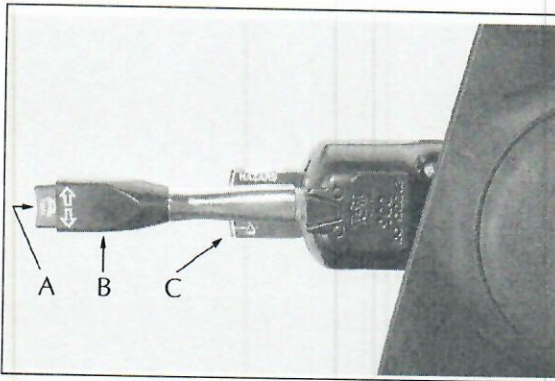

Figure 10
The column-mounted control on the Kalmar tractor has three functions. It is located on the left-hand side of the steering column (Figure 10).
1. Moving the lever (Figure 10, B) forward activates the right turn signal. Moving the lever to the rear activates the left turn signal. The turn signal is not self canceling and must be returned to the center (OFF) position manually after it is engaged. The green arrows on the dash panel light up and flash when the switch is activated.
2. The button on the end of the lever operates the high beam lights (Figure 10, A). The headlights must be on for the switch to work. When the high beam headlights are on, the high beam indicator on the dash will light up.
3. The pull out switch under the lever activates the emergency flashers (Figure 10, C). Pulling out on the switch turns the flashers on. To turn the flashers off, move the turn signal lever forward or backward.